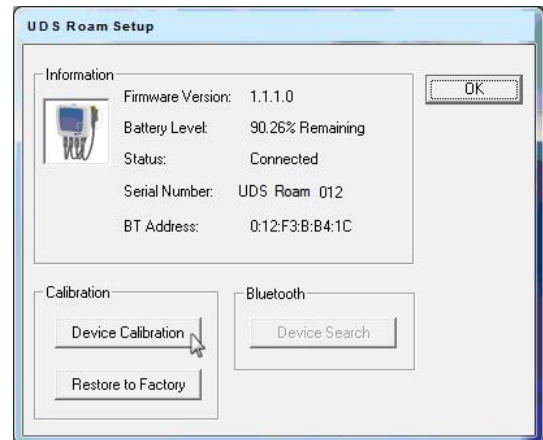

Figure 112: UDS Roam Setup Window
3. Click the **Setup** button to launch the UDS Roam Setup window. Click the **Device Calibration** button (Figure 112).